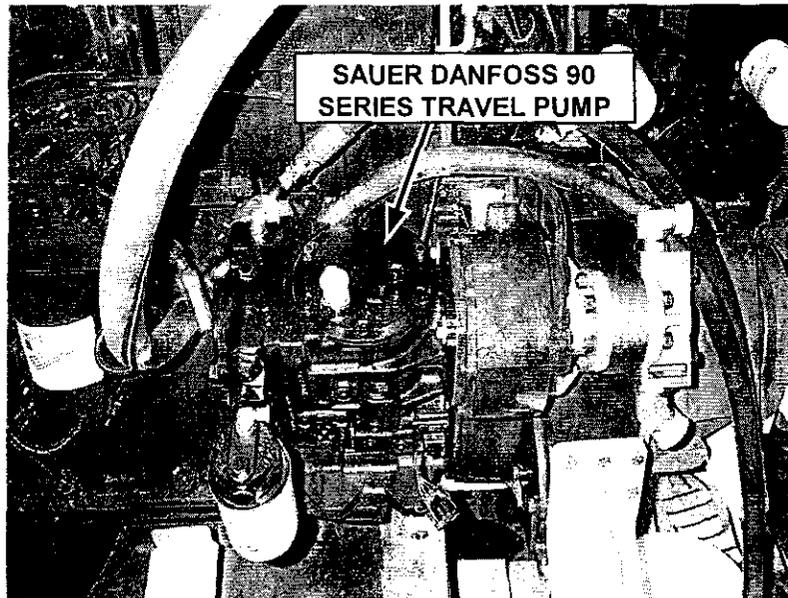

FIGURE 38
7. Locate the Sauer Danfoss series 90 travel pump inside the engine compartment (figure 38).